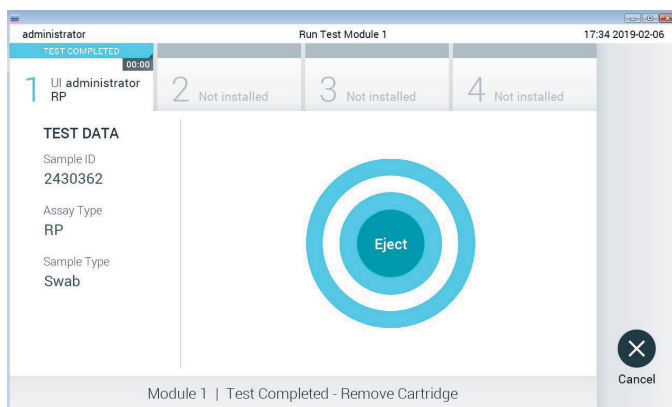

Figure 16. Eject screen display.
21. After the test run is completed, the **Eject** screen will appear (Figure 16, next page) and the Module status bar will display the test result as one of the following options: